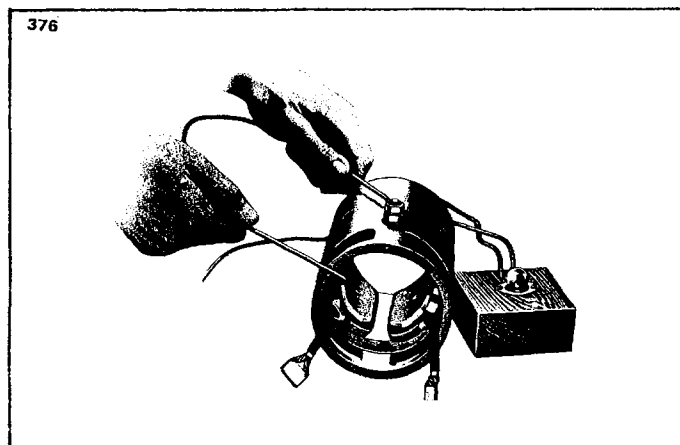

Figure 11-50. Testing Motor Fields for Grounds
- a. Check the field coils for grounds (Refer to Figure 11-50) by placing one test probe on the frame and the other on the starter terminal. Be sure the brushes are not accidentally touching the frame. If the lamp lights, the fields are grounded. Repair or replace.